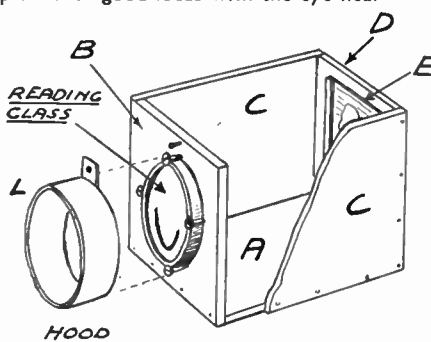

Fig. 1—General construction and parts
The viewing box is built on a base (A) Fig. 1, 5 ins. wide and as long as the lens-picture distance just obtained, and ½ in. thick. On the forward edge of this is the front (B) from which there is taken a circular opening a shade smaller than the diameter of the reading-glass, which latter is fixed in front as shown by four screws.